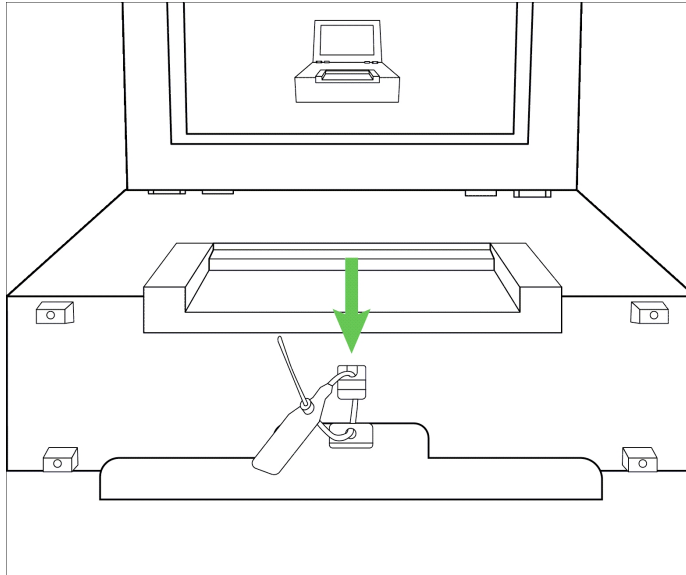

Figure 3-16. Zip tie inserted through hole in the engagement latch and through the cutout in the latch
11. Install a security zip tie through the hole in the engagement latch and through the square cut out in the latch. Properly record the security zip tie number (Figure 3-16).